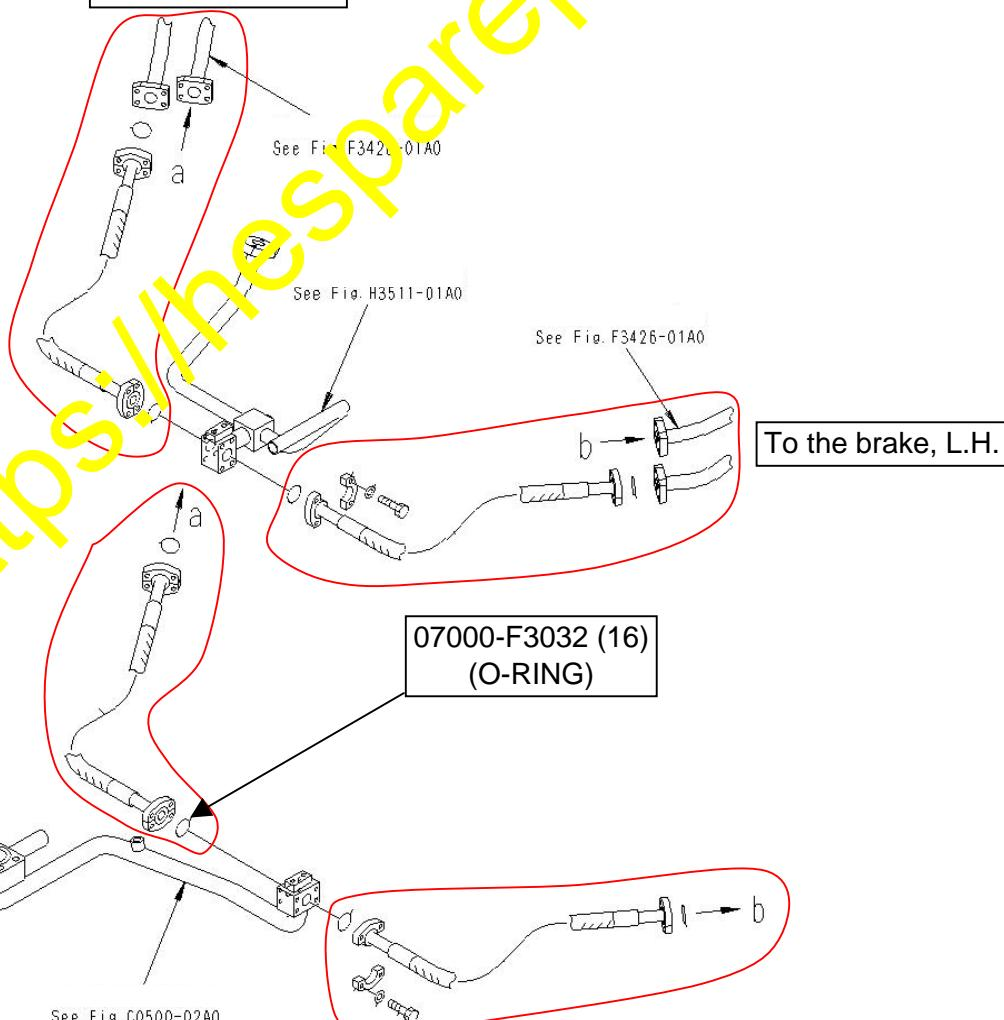

Fig. 12
- 7) Install the cooling piping. (Refer to Fig. 12.) Parts marked Replace the consumable parts (07000-F3032: O-ring) with new ones.